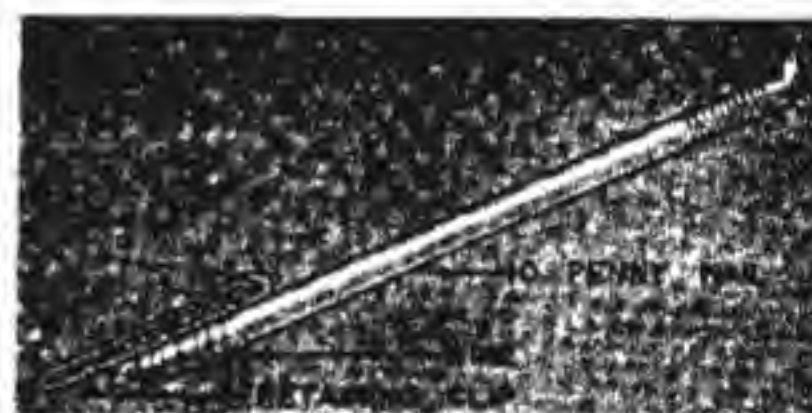

Figure 6
e. Fasten the modified clip securely to a 10 or 12 penny nail or a piece of metal of similar size (see Figure 6).